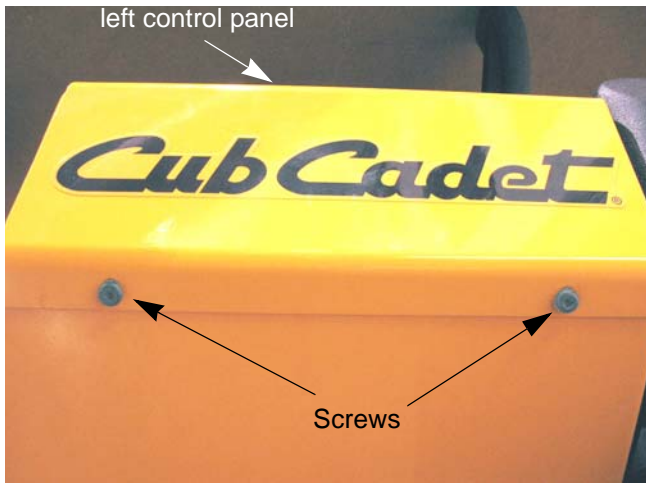

Figure 4.6
3. Remove the two screws from the underside of the left control panel using a T-30 torx driver. See Figure 4.6.